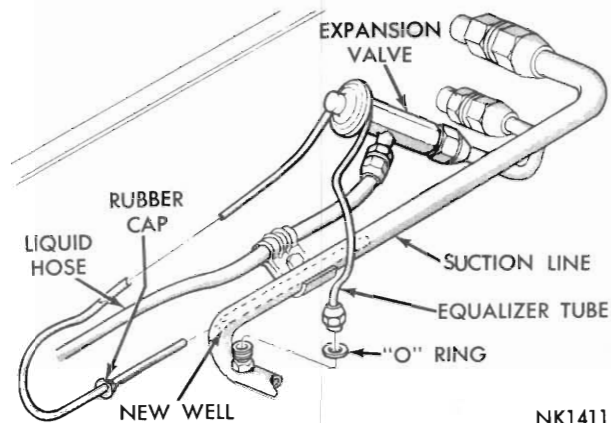
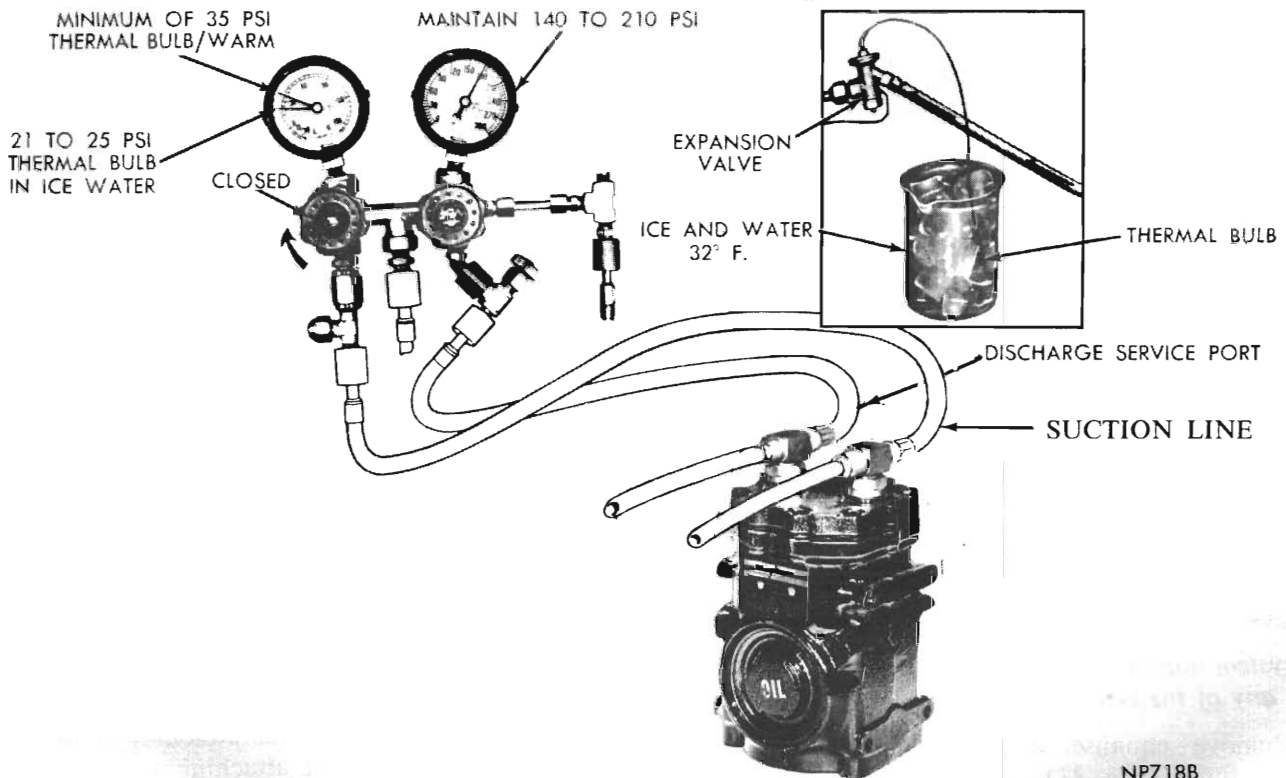

Fig. 31 - Expansion valve details
Fig. 32 - Expansion valve test
(c) Remove the expansion valve thermobulb from the suction line (Fig. 31) and immerse bulb 5 inches in a container of 32°F ice water (Fig. 32).
(1) Remove equaliser tube from evaporator suction line fitting (*Fig. 31*).
(2) Disconnect expansion valve from elbow assembly and liquid line. Use two wrenches to loosen each of these connections.
(3) Carefully pull out capillary sensing tube from well located in suction line. Remove rubber seal from capillary sensing tube. Inspect inlet screen.